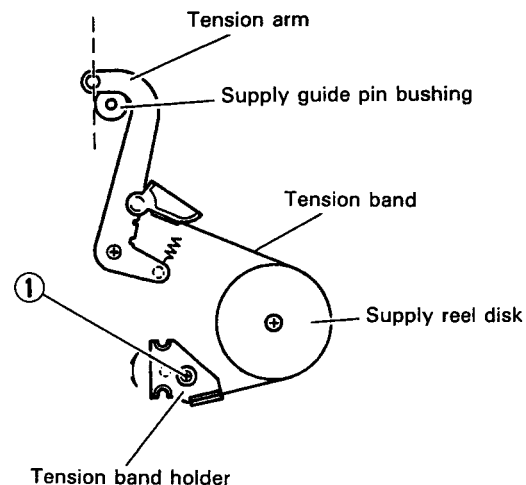

Fig. 1-6-3 Tension pole position
- 2) As shown in Fig. 1-6-3, confirm that the center of the tension pole is aligned with the left edge of the supply guide pin bushing.
- 3) If required, loosen screw (1) and adjust the mounting position of the tension band holder.